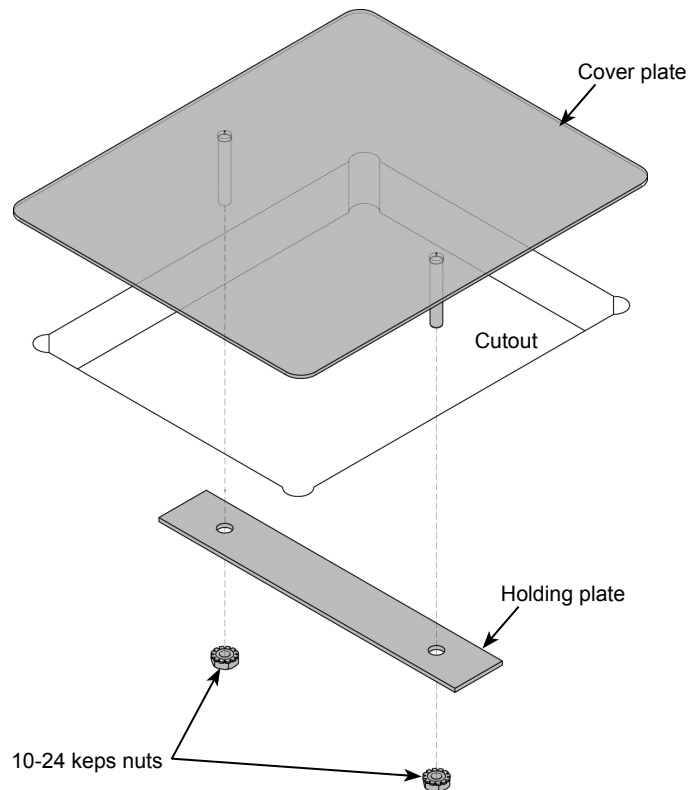

Figure 1
2. From under the worksurface or overbridge panel, install the holding plate over the cover plate threads and install (2) 10-24 keps nuts. **Figure 1.**